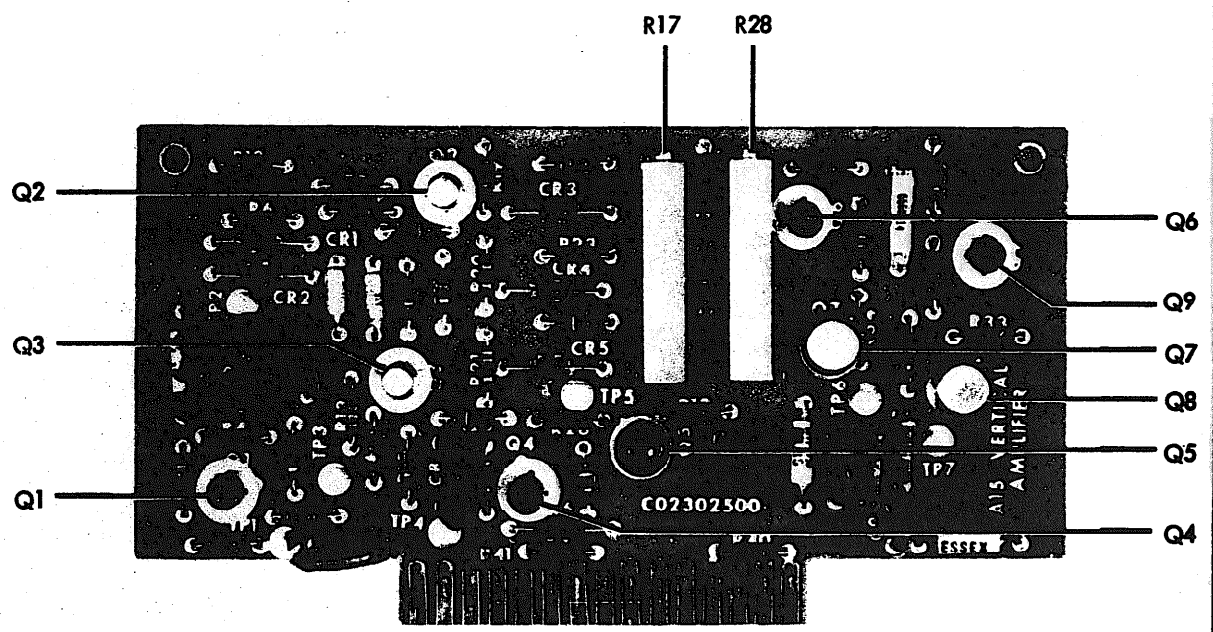

Figure 4-11 Module 4-15, Vertical Amplifier C02302500
12. Vertical Amplifier, Module A15 (Figure 4-11)